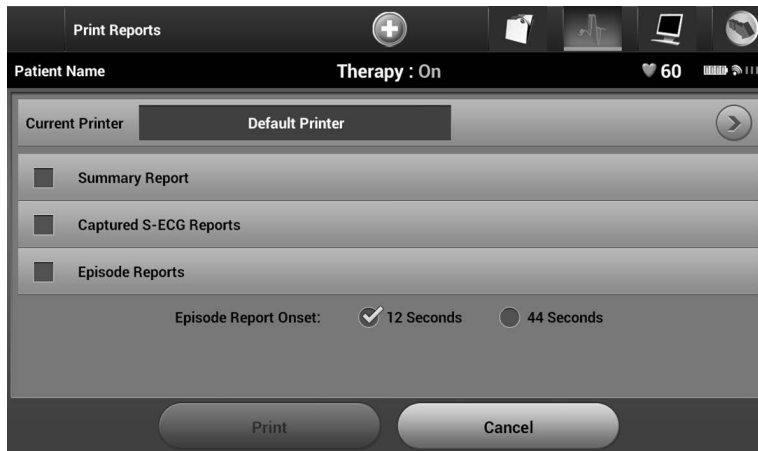

Figure 40: *Print Reports screen*
3. Select Continue to return to the Print Reports screen (Figure 40). Either 12 seconds or 44 seconds of pre-episode S-ECG data may be selected using the radio buttons below the Episode Reports row. The default value for Episode Report Onset is 12 seconds.